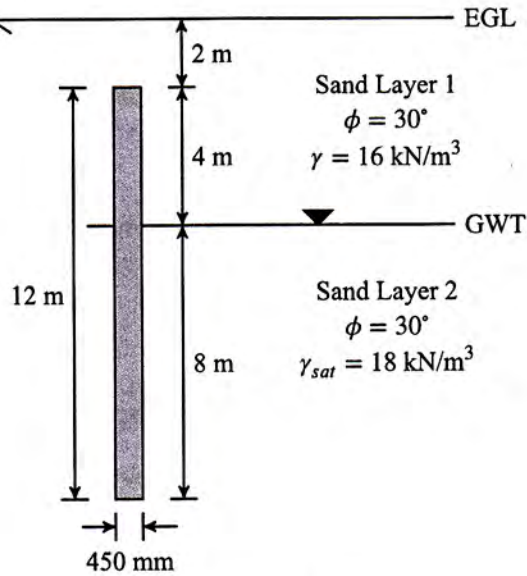

Figure 2: Question 3 (c)
2. (a) Give a brief description of Standard Penetration Test (SPT). (3)
- (b) What do you understand by General Shear Failure, Local Shear Failure, and Punching Shear Failure of shallow foundations? (6)
- (c) A mat foundation on a saturated clay soil has dimension of 50 m × 25 m with $c = 50 \text{ kN/m}^2$, and $\gamma_{sat} = 18 \text{ kN/m}^3$. The total dead and live load on the mat is 100 MN. Determine the depth, D_f , of the mat assuming a fully compensated foundation. What will be the factor of safety (FS) of the mat if the depth of the mat (D_f) is 3 m? Use Meyerhof's bearing capacity factors. (7 $\frac{2}{3}$)
- (b) Discuss the effects of ground water table on the bearing capacity of shallow foundations. (4)
- (c) An individual cast in situ concrete pile in sand having a diameter (D) of 450 mm is shown in Fig. 2. Determine the ultimate load-carrying capacity (Q_u) of the pile. Assume $\delta = 0.8\phi$, $\psi = 75^\circ$, and $K = 1 - \sin \phi$. (9 $\frac{2}{3}$)